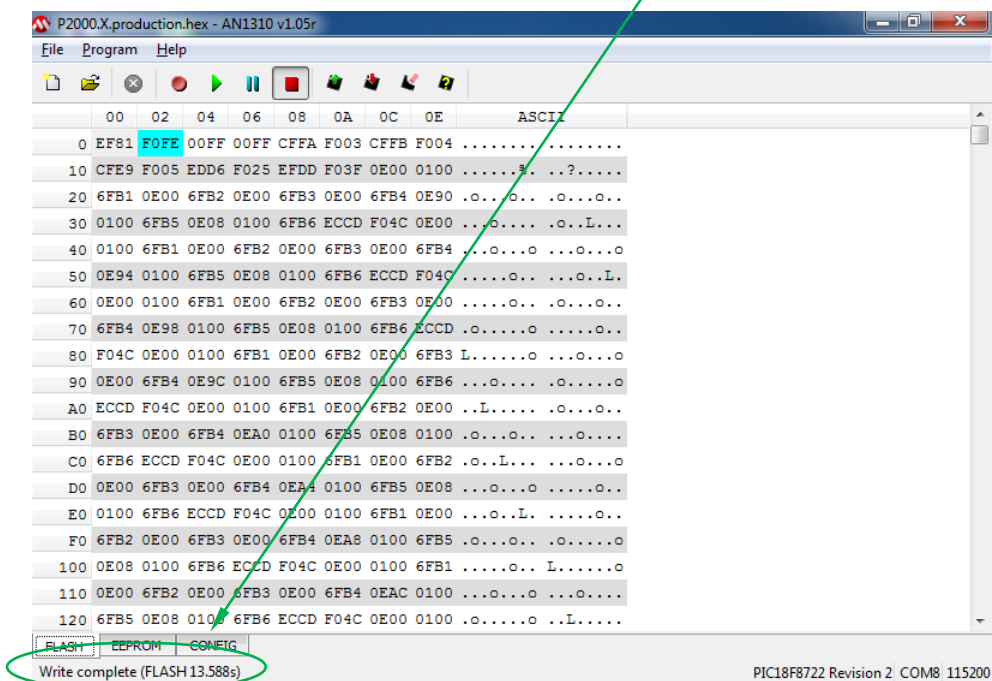

Figure 3.22
- The bootloader software will replace the old firmware in the SP-2000 board with the new one. The bottom status bar will indicate “Write complete” when this step is completed (*Figure 3.22*).